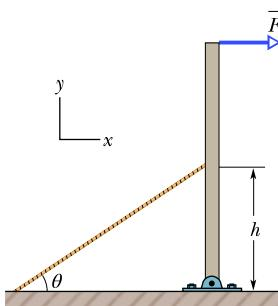

Figure 12.59 Problem 65.
**65** In Fig. 12.59, a uniform beam with a weight of  $60\text{ N}$  and a length of  $3.2\text{ m}$  is hinged at its lower end, and a horizontal force  $\vec{F}$  of magnitude  $50\text{ N}$  acts at its upper end. The beam is held vertical by a cable that makes angle  $\theta = 25^\circ$  with the ground and is attached to the beam at height  $h = 2.0\text{ m}$ . What are (a) the tension in the cable and (b) the force on the beam from the hinge in unit-vector notation?